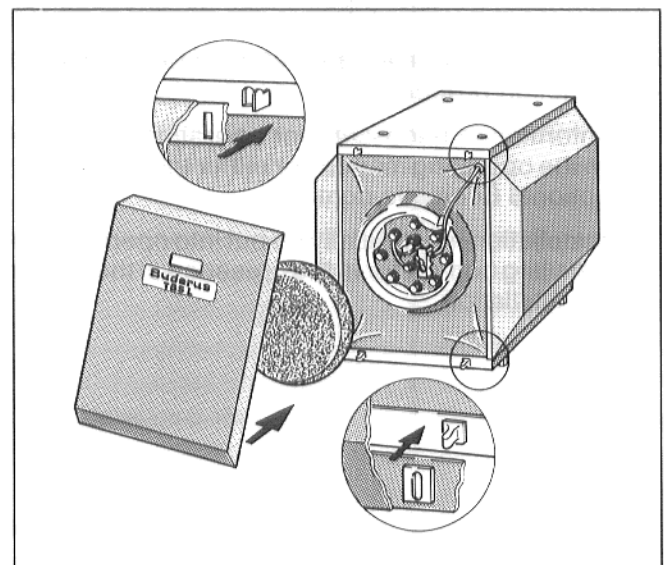

Fig. 9
- Insert insulating disk in front of the inspection port lid (Fig. 9).
- Fit the front panel of the storage tank with the two slits onto the hooks on the body of the storage tank (Fig. 9).